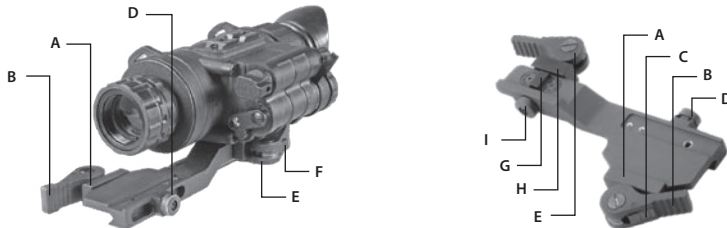

FIGURE 3-5. MOUNTING THE SIRIUS TO A WEAPON WITH A QUICK-RELEASE PICATINNY MOUNT ADAPTER
1. While pushing down on the lever holder (C), turn the lever (B) backwards to loosen the QRM clamping device (A).
2. Install the QRM on the weapon rail by inserting the stop (not shown in Figure 3-5) into one of transverse slots of the weapon rail.
3. To secure the QRM onto the weapon rail, turn the lever (B) forward. Secure the clamping device (A) tightly to the weapon rail. To adjust the force of the lever clamp, loosen or tighten the nut (D) as necessary:
- When the clamping device (A) unlocked, push the lever holder (C) so that the nut (D) gets out of its hollow.
- To tighten/loosen clamping device, turn the nut (D) CW/CCW, respectively, by one-two increments (the eight-sided nuts of the AIM clamping devices fit their hollows only if turned in one of the discrete positions), when the holder (C) pushed. Just as the holder (C) released, backmoving springs makes the nut (D) get back into its hollow.